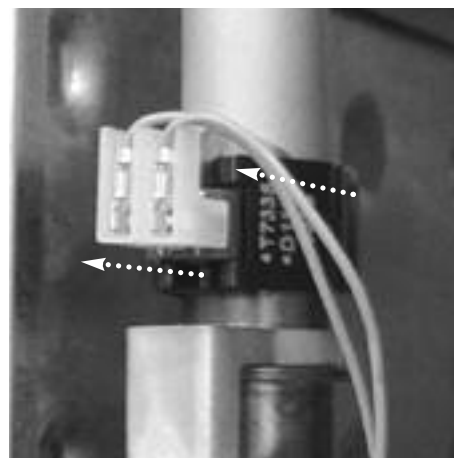

Fig. 101
2. Pull off the NTC connections. Then remove the NTC from the pipe by releasing its securing clip (see Fig. 101).